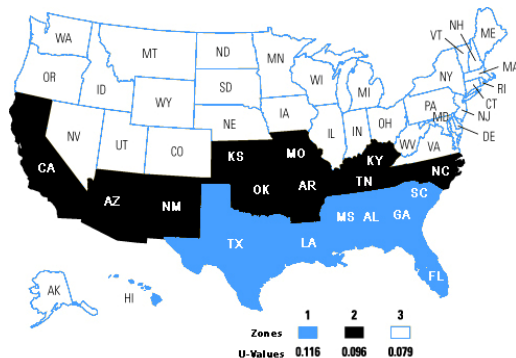

Figure 3. Thermal (UO) zone map
From **Figure 3**, identify the thermal (UO) zone for the home. Verify that the home conforms to the following rules.